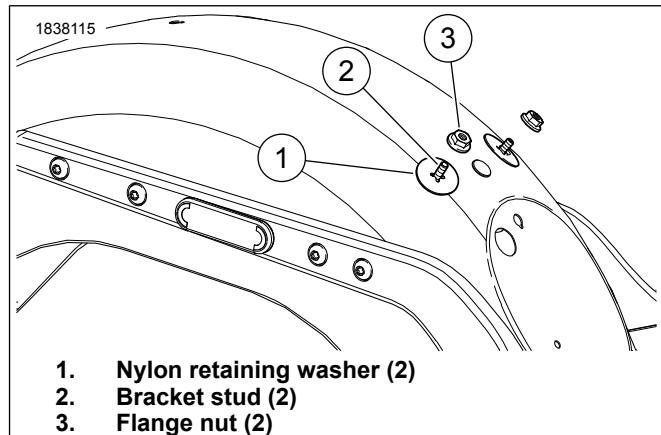

Figure 2. Studded Seat Bracket
4. Figure 2 Remove studded seat bracket, if equipped. Discard.
- a. Remove nylon retaining washers (1) from bracket studs (2).